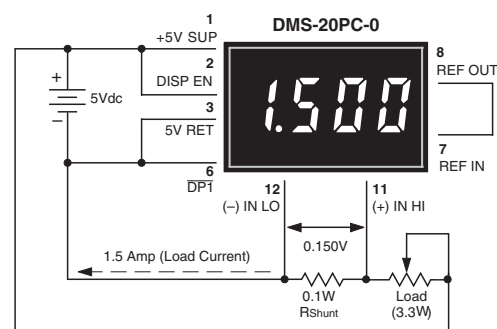

Figure 9. Basic DC Ammeter Circuit
- 7. Digital Ammeter:** Digital ammeters are finding ever-increasing usage because analog-style ammeters (moving-vane types) now cost roughly the same as their digital counterparts. Additionally, analog ammeters are not nearly as rugged as modern digital panel voltmeters. Figure 9 illustrates a typical ammeter application. The circuit uses a $\pm 200\text{mV}$ input meter — the preferred range for most ammeters — to measure the voltage developed across a 0.1Ω current shunt. The circuit shown represents a basic ammeter connection diagram. Click here to view a detailed application note describing digital dc ammeters.